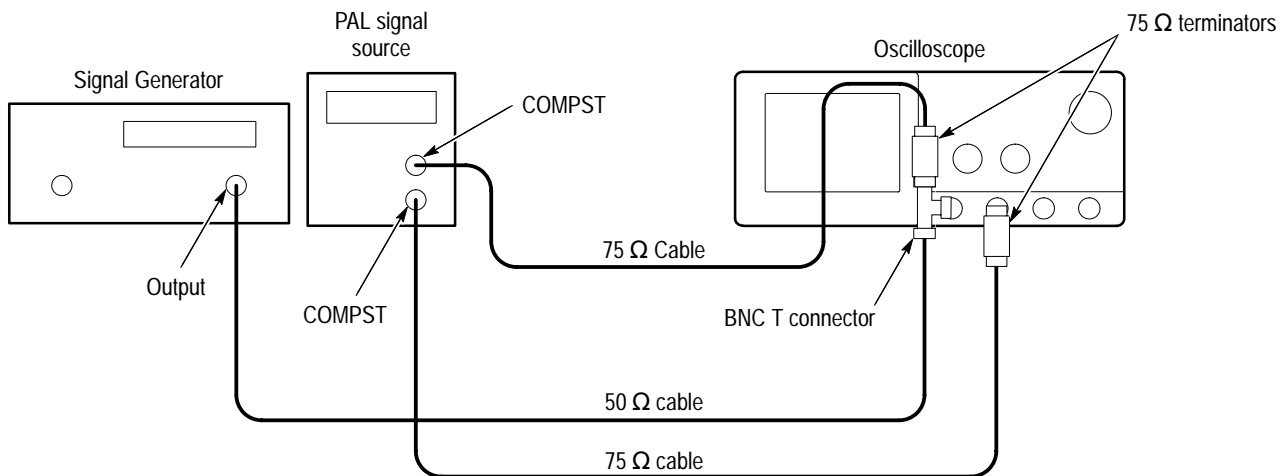

Figure 1–33: Subsequent 60 Hz Rejection test hookup
- Connect another composite signal connector of the PAL signal source (labeled **COMPST** on the TSG 121) through a  $75\ \Omega$  cable and a  $75\ \Omega$  terminator to the CH2 input. See Figure 1–33.
- CONFIRM that the **TRIG'D** LED stays lighted and that the waveform on screen is stable. In other words, be sure the waveform does not move horizontally or vertically. Also, confirm that the waveform on the screen has one positive pulse and a number of negative pulses. See Figure 1–34.